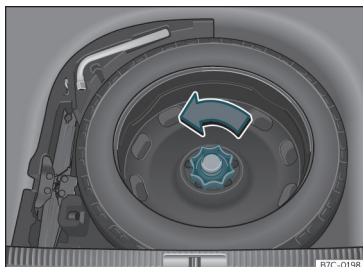

Fig. 213 In the luggage compartment: load floor raised.
- Turn the thumb wheel anti-clockwise »» **Fig. 213**.